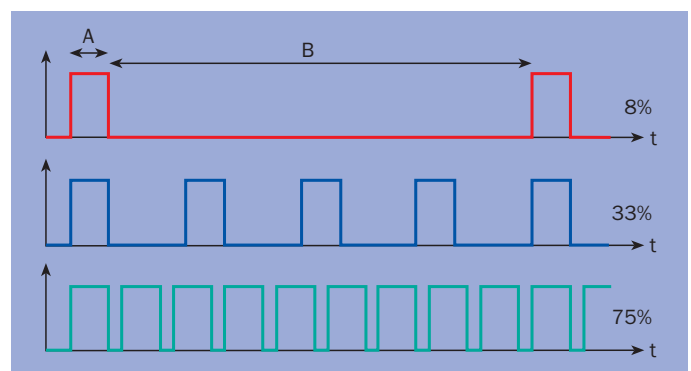

Fig. 5. Frequency modulation.
- **Frequency modulation:** this technique, published by Artistic Licence, uses the concept of a fixed-width control pulse. As described in figure 5, pulse A is always of the same duration, and the luminosity is controlled by how often pulse A repeats itself.